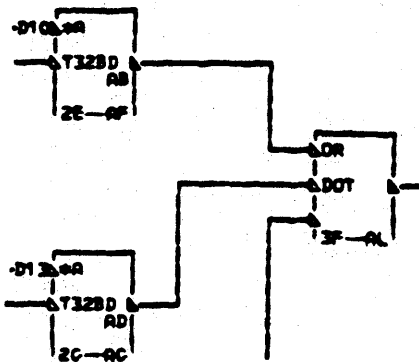

Figure 46. AND, OR, Inverter
Wedges: The wedge (∇) is a small triangle (Figure 46) at the point where a signal line joins a logic block. The wedge indicates that the active state of this line (the state which satisfies the function of the block to produce an output line of the state indicated) is at the least positive potential with respect to the most positive potential shown by the signal line without a wedge.
The basic logic blocks (Figure 46) are the AND (A), OR (OR), and the inverter (N). Almost all other circuits can be built from a combination of these basic circuits. Specifically: